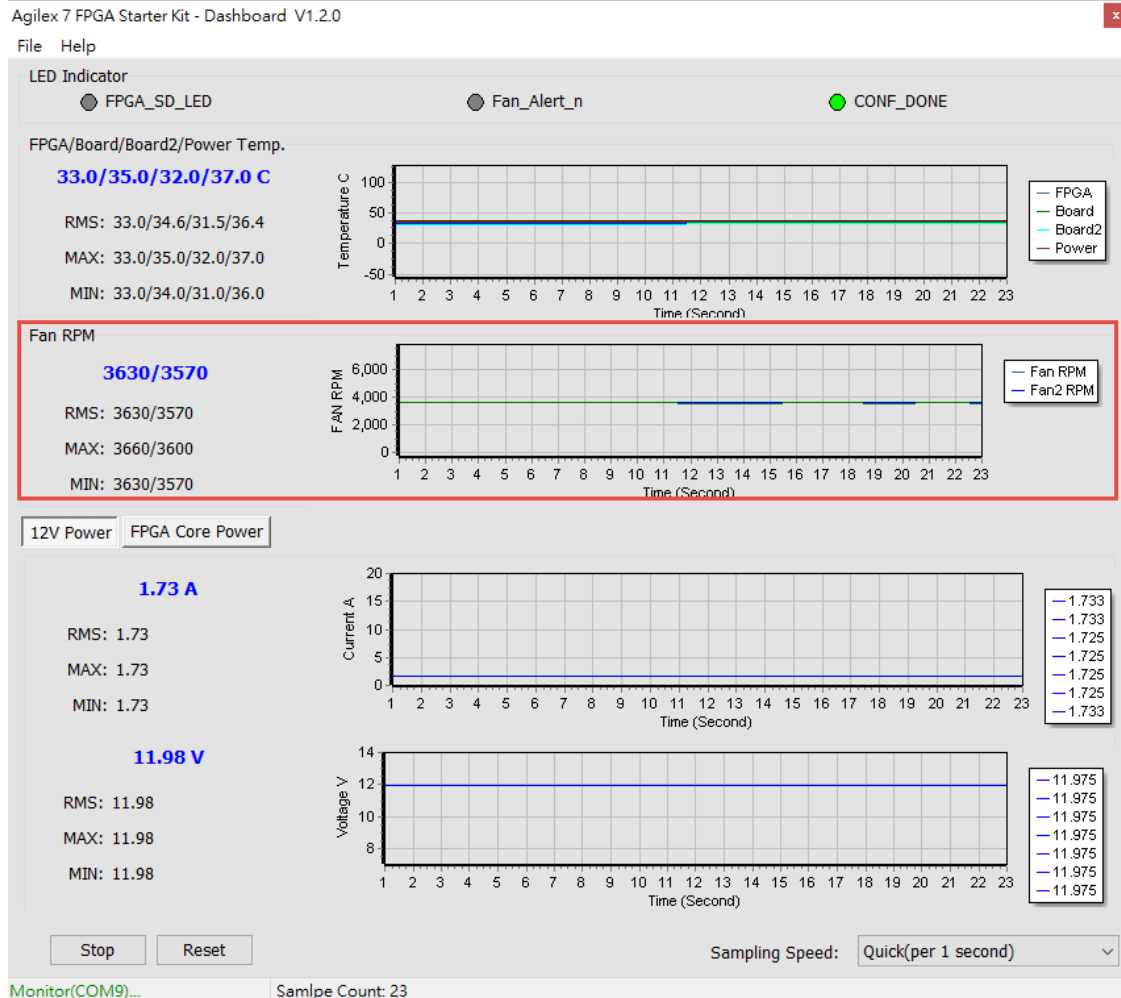

Figure 3-11 FAN RPM section
- **Fan RPM:** It displays the real-time speed of the **two** fans (Fan and Fan2 in the GUI) on the Agilex 7 FPGA Starter Kit board, as shown in **Figure 3-11**.